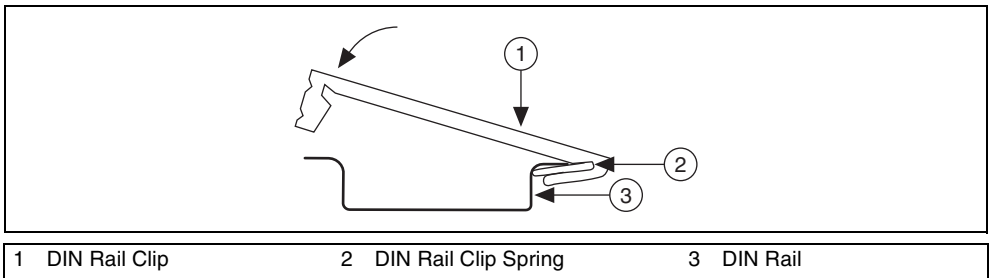

Figure 7. One Edge of DIN Rail Inserted in Clip
2. Insert one edge of the DIN rail into the deeper opening of the DIN rail clip, as shown in Figure 7.